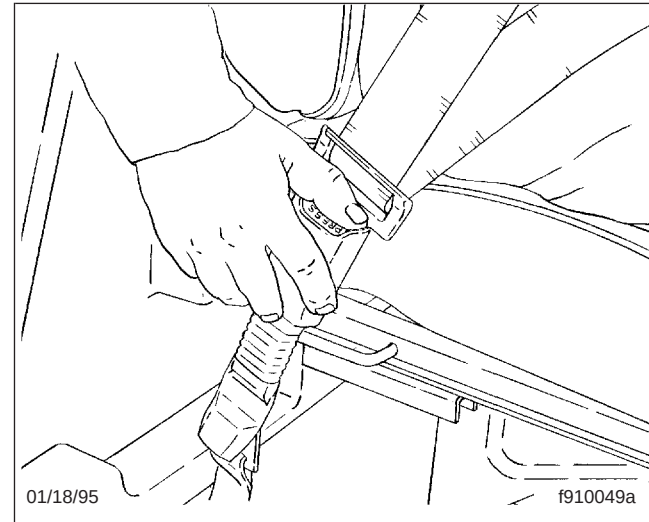

Fig. 5.7, Releasing the Three-Point Seat Belt
4. To unbuckle the three-point seat belt, push the button on the buckle as shown in Fig. 5.7. If the Komfort latch was used, release it by giving the shoulder belt a quick tug. If you lean forward against the